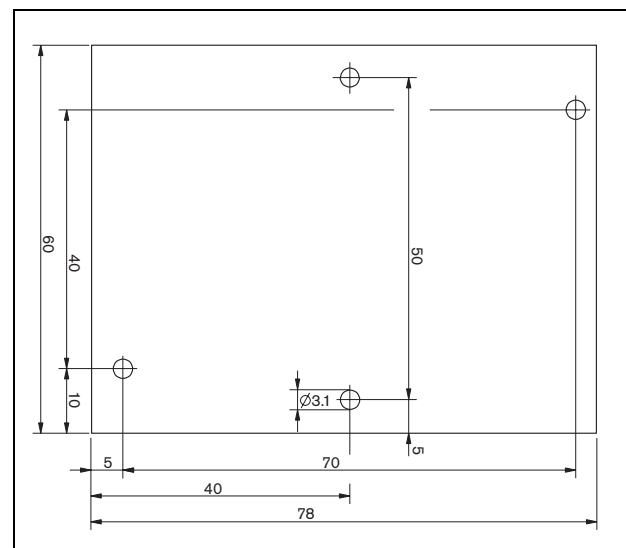

figure 10.5: Dimensions
To install the board in, for example, a box, use the universal brackets (LBB4446/00). Connect the board to a bracket using the middle holes (see figure 10.5).
- 2 Use the corner holes in the board (see figure 10.5) to install it in a loudspeaker. The coils on the PCB must be kept at a distance of 30 mm or more from the loudspeaker magnet and a distance of 50 mm or more from the loudspeaker transformer, otherwise the magnetic fields can disturb the correct operation of the board.